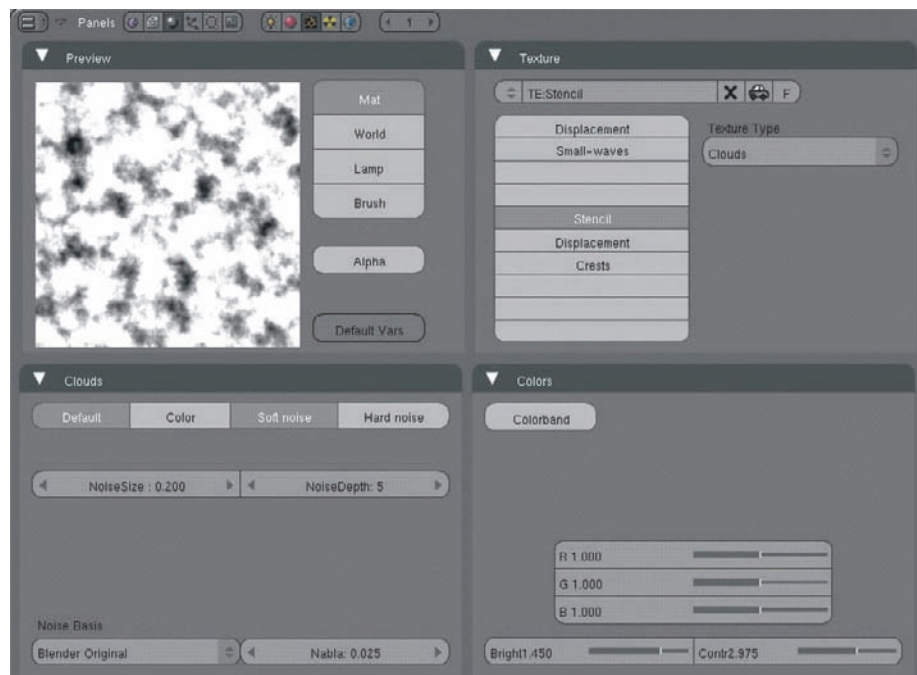
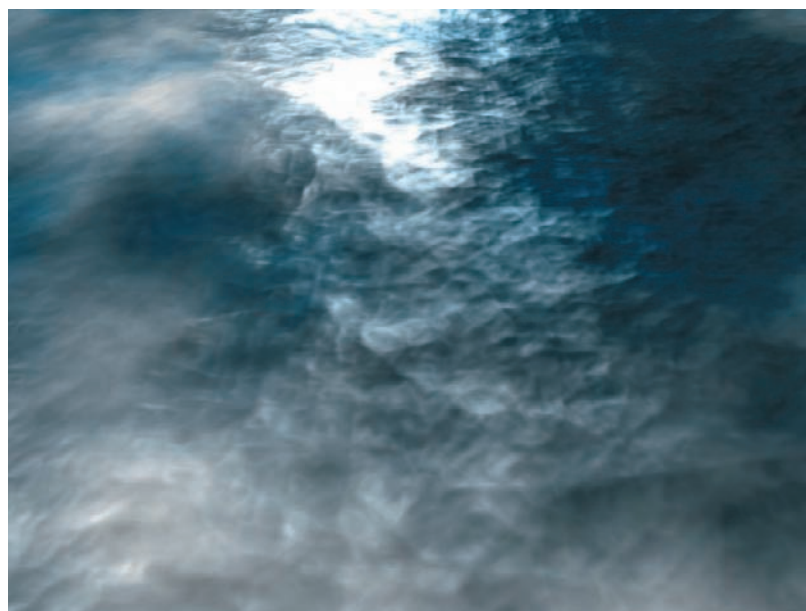

Figure 1.46 Stencil texture
Figure 1.47 Test render
9. Select channel 4 in the Texture tab of the Material buttons and click Add New to add a new texture. Name this texture **Stencil** and set its values as shown in Figure 1.46. Select Stencil in the Map To tab. This will prevent the foam and crest textures from matching the displacement too perfectly. A test render should look like Figure 1.47.